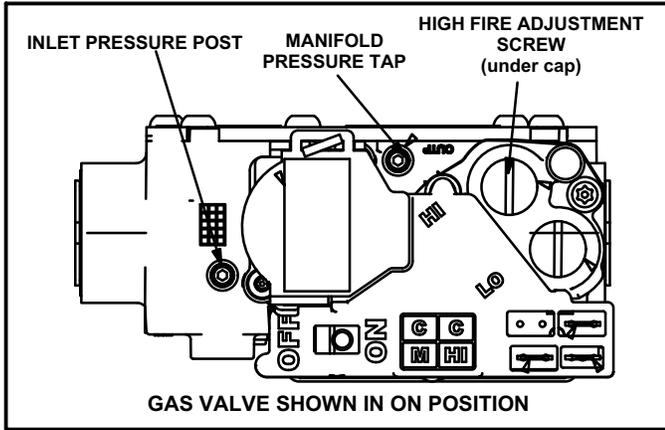

FIGURE 22
Gas Valve Operation (Figure 22)
- 6 - Move switch on gas valve to **OFF**. Do not force. See figure 22.
8 - Move switch on gas valve to **ON**. Do not force. See figure 22.
An inlet post located on the gas valve provides access to the supply pressure. See figure 22. Back out the 3/32 hex screw one turn, connect a piece of 5/16 tubing and connect to a manometer to measure supply pressure. See table 13 for supply line pressure.
- 1 - Connect test gauge to manifold pressure tap (figure 22) gas valve.
- 4 - If necessary, make adjustments. Figure 22 shows location of high fire adjustment screw.